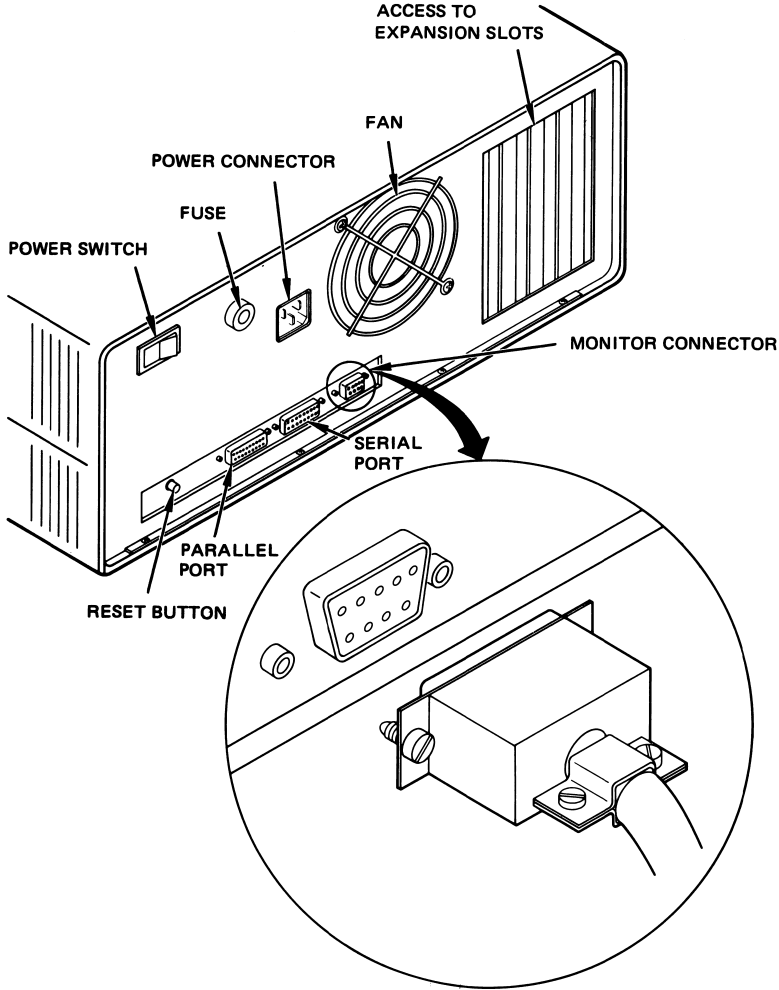
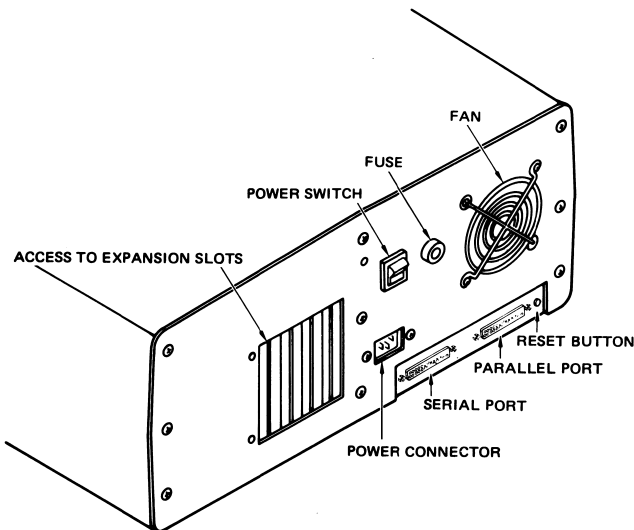

Figure 5-4. Connecting the Monitor Cable to the Desktop System Unit
Figure 5-6. Rear View of the Portable System Unit
2. Spaced along the back of the system unit are three connectors, two with 25 holes, and one with only nine. Take one end of the monitor connector and plug it into the nine-hole connector on the back of the system unit, making sure that it is turned in the correct direction. (See Figure 5-4.)
1. Plug the power cord into the system unit. The power connector is shown in Figure 5-4. The power receptacle on the portable system unit is shown in Figure 5-6. There is only one cord that will lead from the portable system unit.
The port closest to the monitor connector is the serial port and the one closest to the reset button is the parallel port. Refer to Figure 5-4 for location on the desktop. For the portable refer to Figure 5-6.